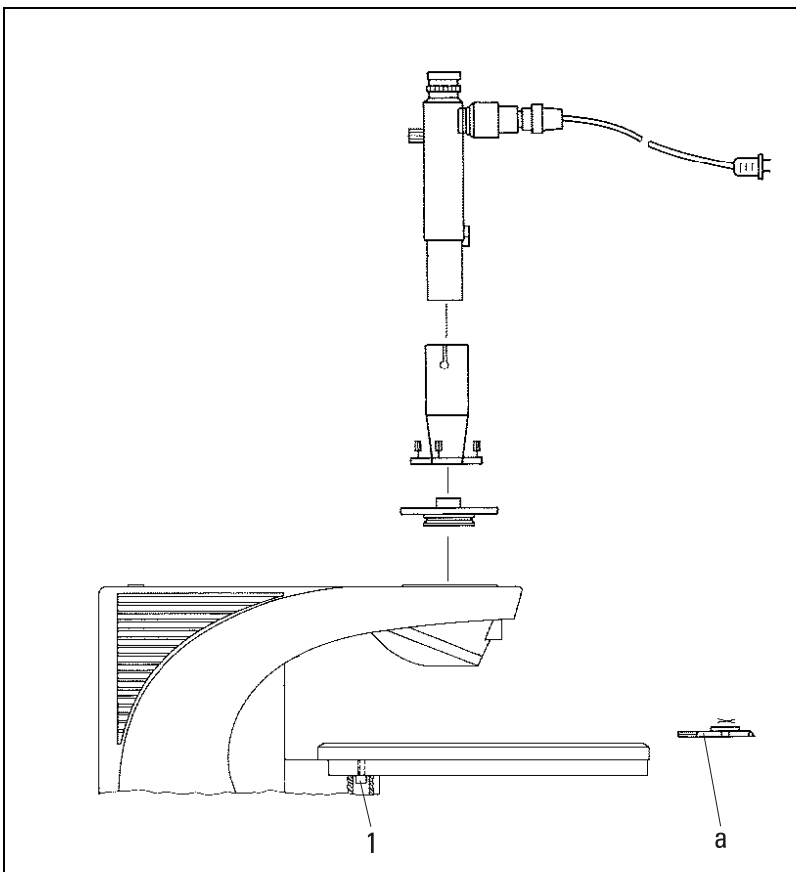

Figure 20: Stage adjustment
11. Tighten the 4 screws (see figure 20, position 1).